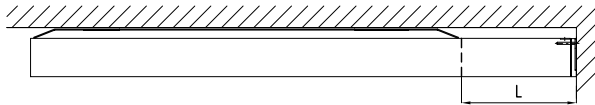

Figure 11. Extended cover with wall attachments.
- 1.- Extended cover with wall attachments (see fig. 11).